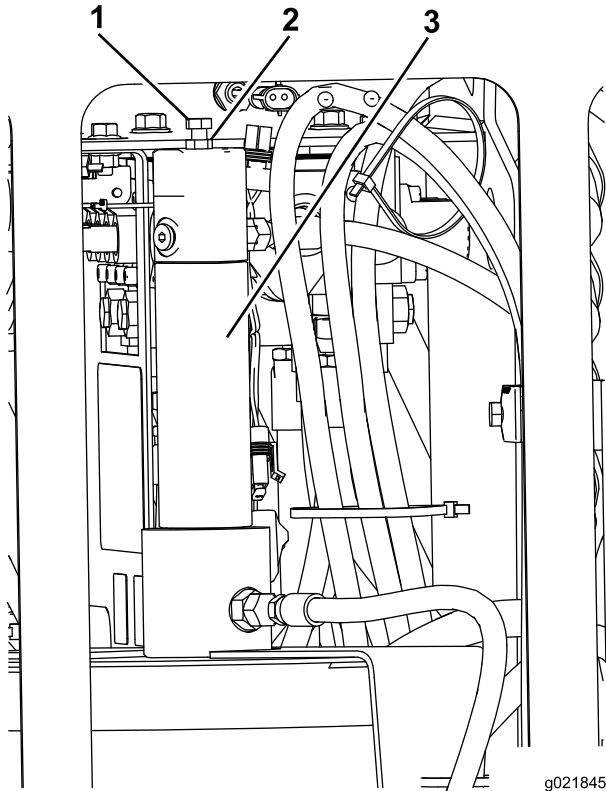

Figure 90
1. Loosen the jam nut on the adjustment bolt located on top of the TJC-applicator piston (Figure 90).